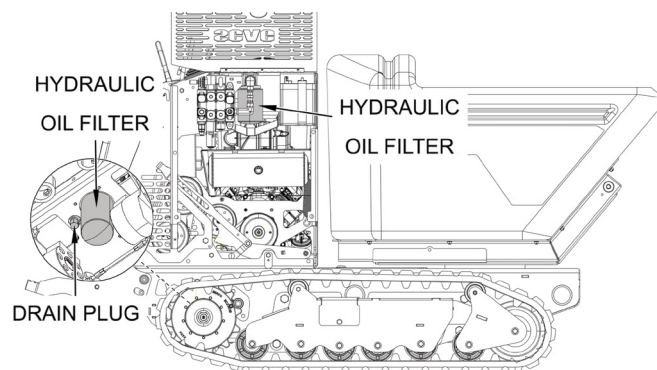

Figure 6-8. Hydraulic Oil Filters & Drain Plug
4. Place a suitable container under the reservoir drain plug and remove the reservoir fill cap. Remove the drain plug and allow for all of the used oil to drain into the container. See Figure 6-8.
1. Place a suitable container or rag under the hydraulic oil filter to catch used oil. Remove the oil filter and properly discard. See Figure 6-8.